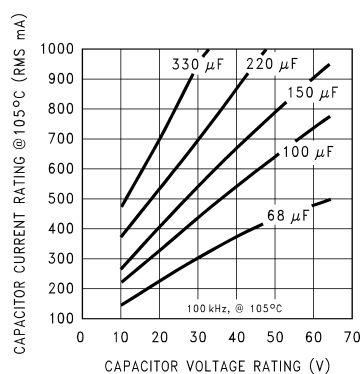

Figure 28. RMS Current Ratings for Low ESR Electrolytic Capacitors (Typical)
B. Select an appropriate capacitor value and voltage rating, using the capacitor code, from the output capacitor selection in Table 10. There are two solid tantalum (surface mount) capacitor manufacturers and four electrolytic (through hole) capacitor manufacturers to choose from. It is recommended that both the manufacturers and the manufacturer's series that are listed in the table be used. A table listing the manufacturers' phone numbers is located in Table 4. 4. Catch Diode Selection (D1) A. In normal operation, the average current of the catch diode is the load current times the catch diode duty cycle, 1-D (D is the switch duty cycle, which is approximately V_{OUT}/V_{IN}). The largest value of the catch diode average current occurs at the maximum input voltage (minimum D). For normal operation, the catch diode current rating must be at least 1.3 times greater than its maximum average current. However, if the power supply design must withstand a continuous output short, the diode should have a current rating greater than the maximum current limit of the LM2674. The most stressful condition for this diode is a shorted output condition. B. The reverse voltage rating of the diode should be at least 1.25 times the maximum input voltage. C. Because of their fast switching speed and low forward voltage drop, Schottky diodes provide the best performance and efficiency. The Schottky diode must be located close to the LM2674 using short leads and short printed circuit traces. 5. Input Capacitor (C_{IN}) A low ESR aluminum or tantalum bypass capacitor is needed between the input pin and ground to prevent large voltage transients from appearing at the input. This capacitor should be located close to the IC using short leads. In addition, the RMS current rating of the input capacitor should be selected to be at least ½ the DC load current. The capacitor manufacturer data sheet must be checked to assure that this current rating is not exceeded. The curves shown in Figure 28 show typical RMS current ratings for several different aluminum electrolytic capacitor values. A parallel connection of two or more capacitors may be required to increase the total minimum RMS current rating to suit the application requirements. For an aluminum electrolytic capacitor, the voltage rating should be at least 1.25 times the maximum input voltage. Caution must be exercised if solid tantalum capacitors are used. The tantalum capacitor voltage rating should be twice the maximum input voltage. Table 7 and Table 8 show the recommended application voltage for AVX TPS and Sprague 594D tantalum capacitors. It is also recommended that they be surge current tested by the manufacturer. The TPS series available from AVX, and the 593D and 594D series from Sprague are all surge current tested. Another approach to minimize the surge current stresses on the input capacitor is to add a small inductor in series with the input supply line. Use caution when using only ceramic capacitors for input bypassing, because it may cause severe ringing at the V_{IN} pin. 6. Boost Capacitor (C_B) This capacitor develops the necessary voltage to turn the switch gate on fully. All applications should use a 0.01 µF, 50V ceramic capacitor.	B. From the output capacitor selection in Table 10, choose a capacitor value (and voltage rating) that intersects the capacitor code(s) selected in section A, C20. The capacitance and voltage rating values corresponding to the capacitor code C20 are the: Surface Mount: 33 µF/25V Sprague 594D Series. 33 µF/25V AVX TPS Series. Through Hole: 33 µF/25V Sanyo OS-CON SC Series. 120 µF/35V Sanyo MV-GX Series. 120 µF/35V Nichicon PL Series. 120 µF/35V Panasonic HFQ Series. Other manufacturers or other types of capacitors may also be used, provided the capacitor specifications (especially the 100 kHz ESR) closely match the characteristics of the capacitors listed in the output capacitor table. Refer to the capacitor manufacturers' data sheet for this information. 4. Catch Diode Selection (D1) A. Refer to Table 5. Schottky diodes provide the best performance, and in this example a 500mA, 40V Schottky diode would be a good choice. If the circuit must withstand a continuous shorted output, a higher current (at least 1.2A) Schottky diode is recommended. 5. Input Capacitor (C_{IN}) The important parameters for the input capacitor are the input voltage rating and the RMS current rating. With a maximum input voltage of 28V, an aluminum electrolytic capacitor with a voltage rating of at least 35V ($1.25 \times V_{IN}$) would be needed. The RMS current rating requirement for the input capacitor in a buck regulator is approximately ½ the DC load current. In this example, with a 500mA load, a capacitor with an RMS current rating of at least 250 mA is needed. The curves shown in Figure 28 can be used to select an appropriate input capacitor. From the curves, locate the 35V line and note which capacitor values have RMS current ratings greater than 250 mA. For a through hole design, a 68 µF/35V electrolytic capacitor (Panasonic HFQ series, Nichicon PL, Sanyo MV-GX series or equivalent) would be adequate. Other types or other manufacturers' capacitors can be used provided the RMS ripple current ratings are adequate. Additionally, for a complete surface mount design, electrolytic capacitors such as the Sanyo CV-C or CV-BS, and the Nichicon WF or UR and the NIC Components NACZ series could be considered. For surface mount designs, solid tantalum capacitors can be used, but caution must be exercised with regard to the capacitor surge current rating and voltage rating. In this example, checking note 1 of Table 8, and the Sprague 594D series datasheet, a Sprague 594D 15 µF, 50V capacitor is adequate. 6. Boost Capacitor (C_B) For this application, and all applications, use a 0.01 µF, 50V ceramic capacitor.